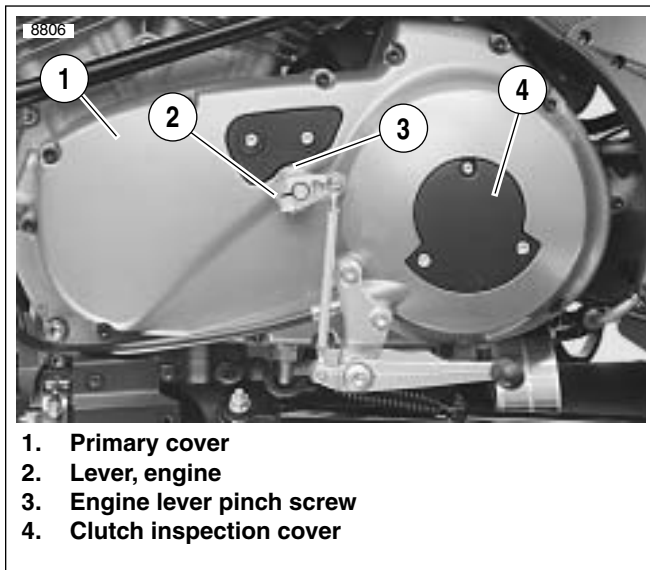

Figure 6-7. Installing Primary Cover
11. See Figure 6-7. Install clutch inspection cover (4) with new gasket and three TORX screws with washers. Tighten screws in a crosswise pattern to 84-108 in-lbs (9.5-12.2 Nm).